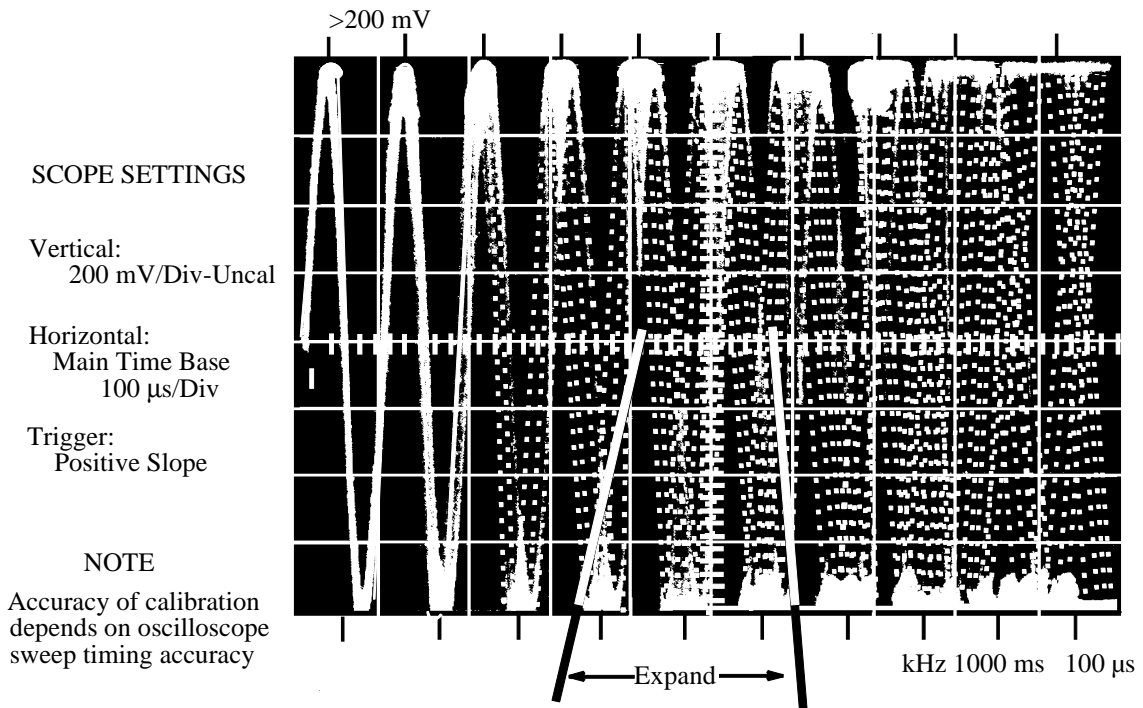
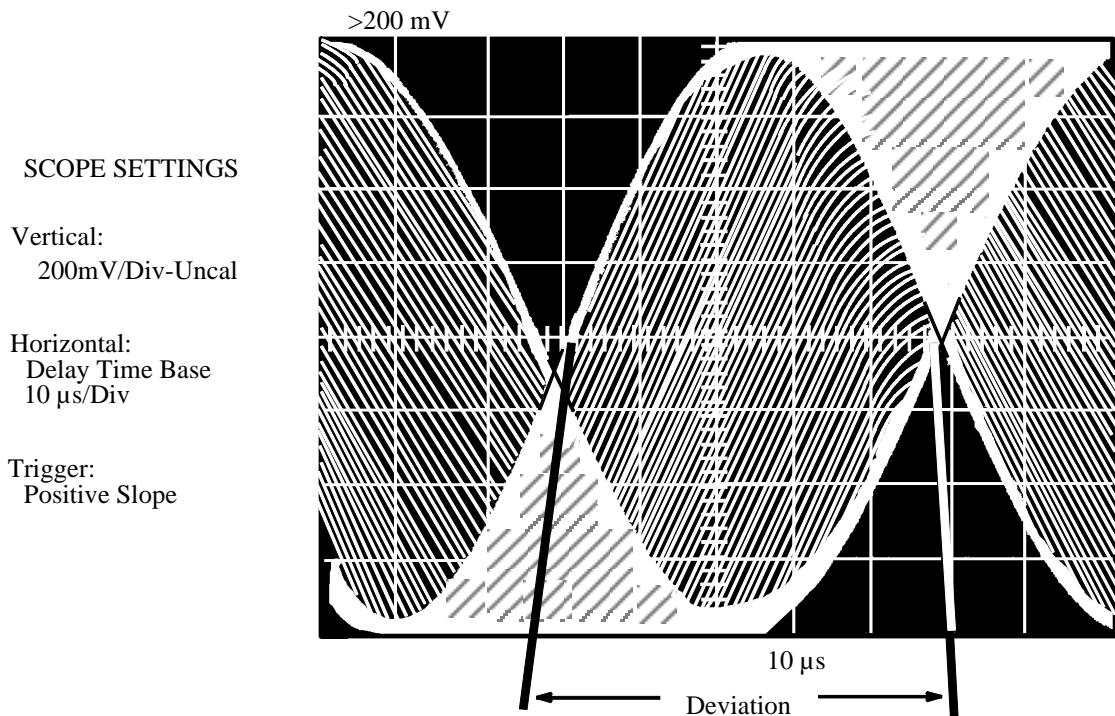

Figure 1. FM Deviation Display
Figure 2. 9960 Hz Deviation Adjustment
4.1.13 Adjust the oscilloscope trigger and position controls to vertically center the display, and then position the sweep trigger point at the left edge of the center horizontal graticule line as shown in Figure 1.
4.1.14 Use the oscilloscope delayed sweep function to expand the portion of the TI signal indicated in Figure 1, with the oscilloscope delayed time base is set for 10 μs/div, such that the display is similar to Figure 2. Verify that the deviation of the expanded display corresponds to delta time ( $\Delta t$ ) = 48.5 μs ± 2.4 μs (see Figure 2).